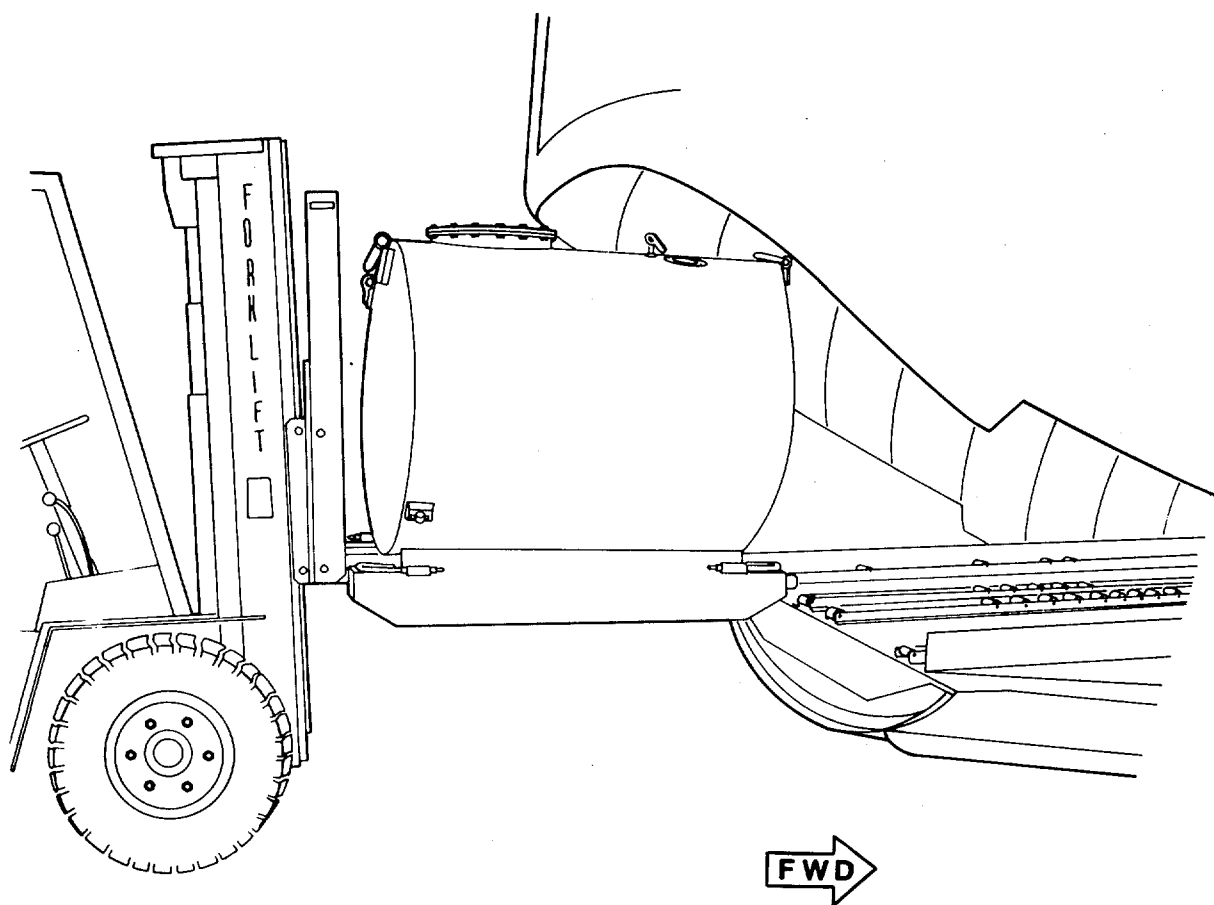

Figure 2-1. ERFS Tank Loading with Forklift
- Use a one ton or larger forklift. Damage of equipment or injury of personnel may occur if a ground guide for forklift operations is not used. Refer to Figure 2-1.